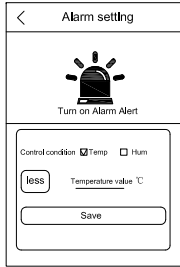

Fig.10
- Set the trigger condition of the sensor: press and hold the sensor ID to access alarm setting interface as shown Fig. 10.